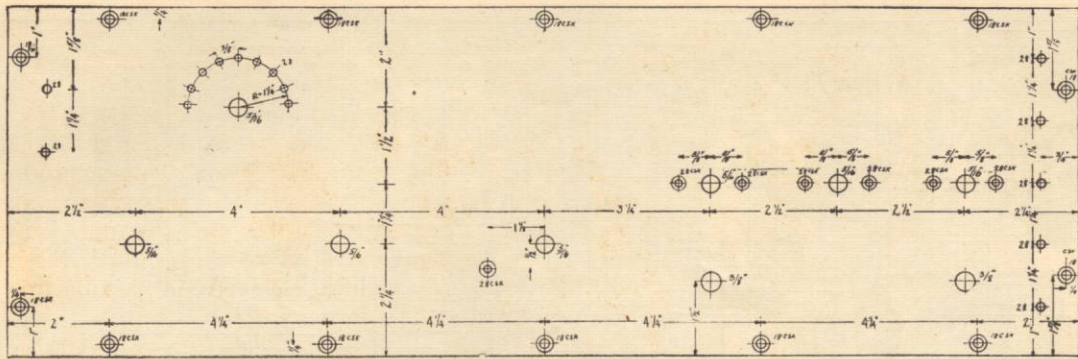

FIG. 3
**T**O PREPARE the panel for drilling, lay out the various center points by direct reference to Fig. 3. With a light hammer and centerpunch mark these points and after securing the panel substantially, drill all the holes first with a No. 28 drill. Once drilled,